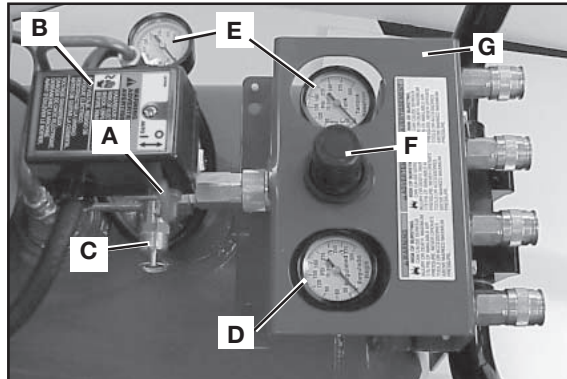

Fig. 1
Regulator (F) Fig. 1: Controls the air pressure shown on the outlet pressure gauge. Pull the knob out and turn clockwise to increase pressure and counterclockwise to decrease pressure. When the desired pressure is reached push knob in to lock in place.
Portable "Quadraport" Control Panel (G) Fig. 1: Permits remote air regulation and control closer to work area, includes four high-flow industrial/automotive style compatible quick-connects, large gauges, and a high-flow regulator.